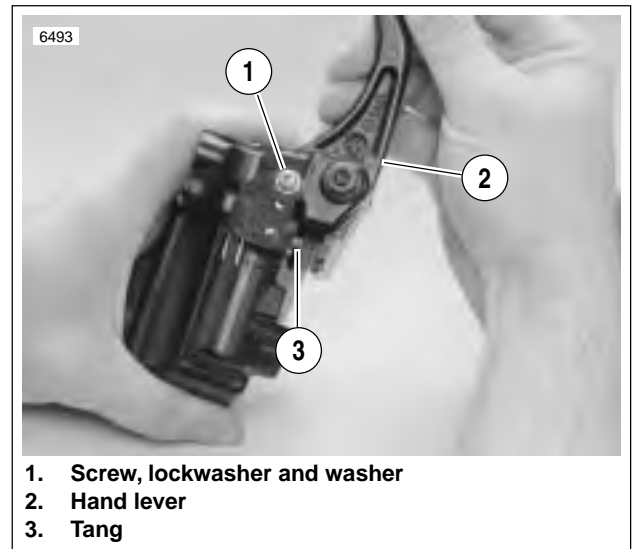

Figure 2-34. Testing Hand Lever
- a. Attach front brake switch with screw, washer and lockwasher (1). Tighten to 7-13 **in-lbs** (0.8-1.5 Nm).
- b. See Figure 2-34. Test switch action. Tang (3) on switch must release when hand lever (2) is moved.